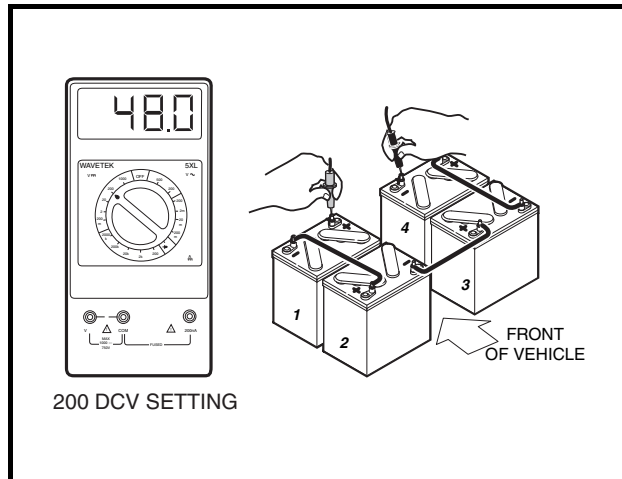
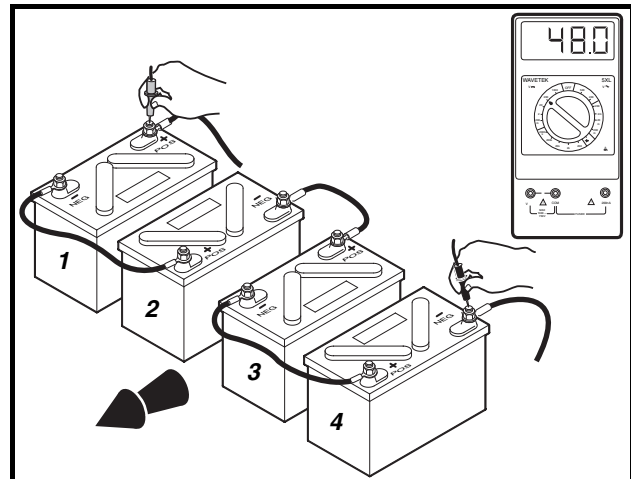

Figure 6-14 Battery Voltage Test – Precedent Style A Battery Configuration
Figure 6-15 Battery Voltage Test – Precedent Style B Battery Configuration
- 4.3. **Style A and B 4 x 12-Volt Precedent only:** With a multimeter set to 200 volts DC, measure the voltage of the battery pack between the positive (+) post of battery no. 1 and the negative (-) post of battery no. 4 (**Figure 6-14, Page 6-18 or Figure 6-15, Page 6-18**).